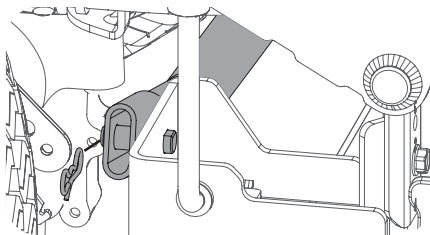

Figure 50
- a. Remove the bow-tie cotter pin on the right side of the bar connecting the bar with the bracket on the deck. See Figure 50.